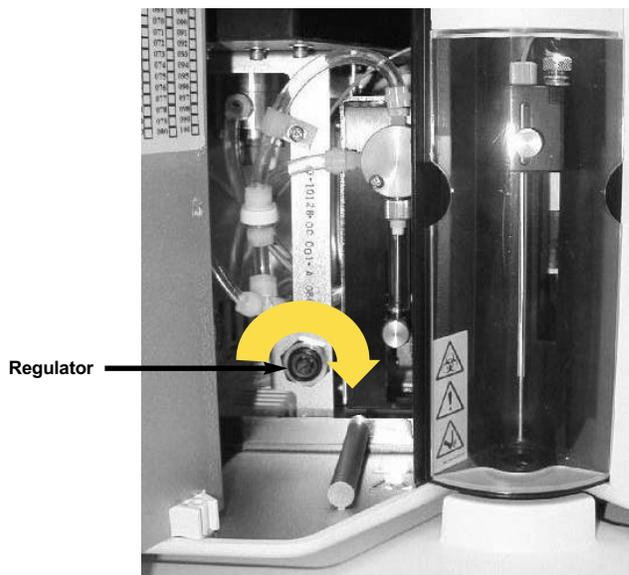

Fig. 20. Regulator screw adjustment.
12. Open the center access door on the array reader. Use a screwdriver to turn the regulator screw fully clockwise, then one half-turn back (Figure 20). This may require several full turns of the regulator screw.